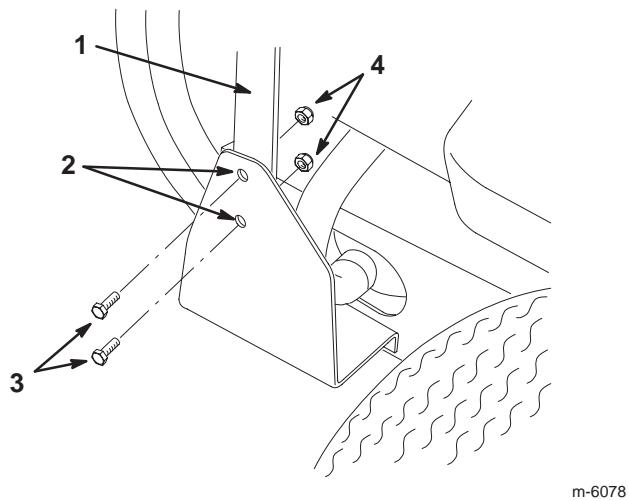

Figure 3
4. Drill 2 holes (11/32 in. dia.) though the right vertical brace of the bagger frame using the holes in the support bracket as a template (Fig. 3).
5. Secure the support bracket to the brace with 2 bolts (5/16 x 1 in.) and flange nuts (5/16 in.) (Fig. 3).